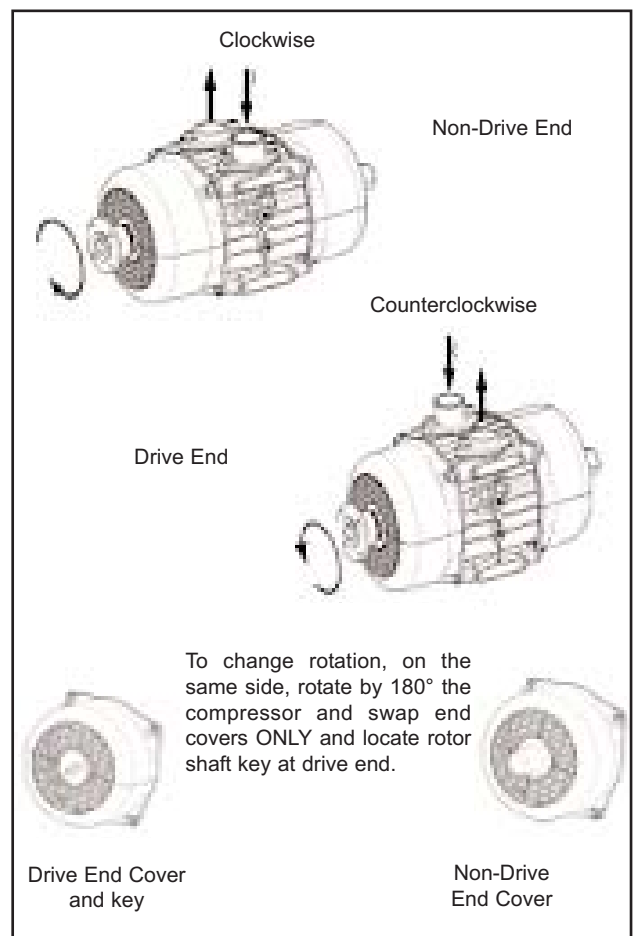

Figure 2
2. The compressor can be driven from either end, however the drive shaft **MUST** always be horizontal +/- 5°. See Figure 2.